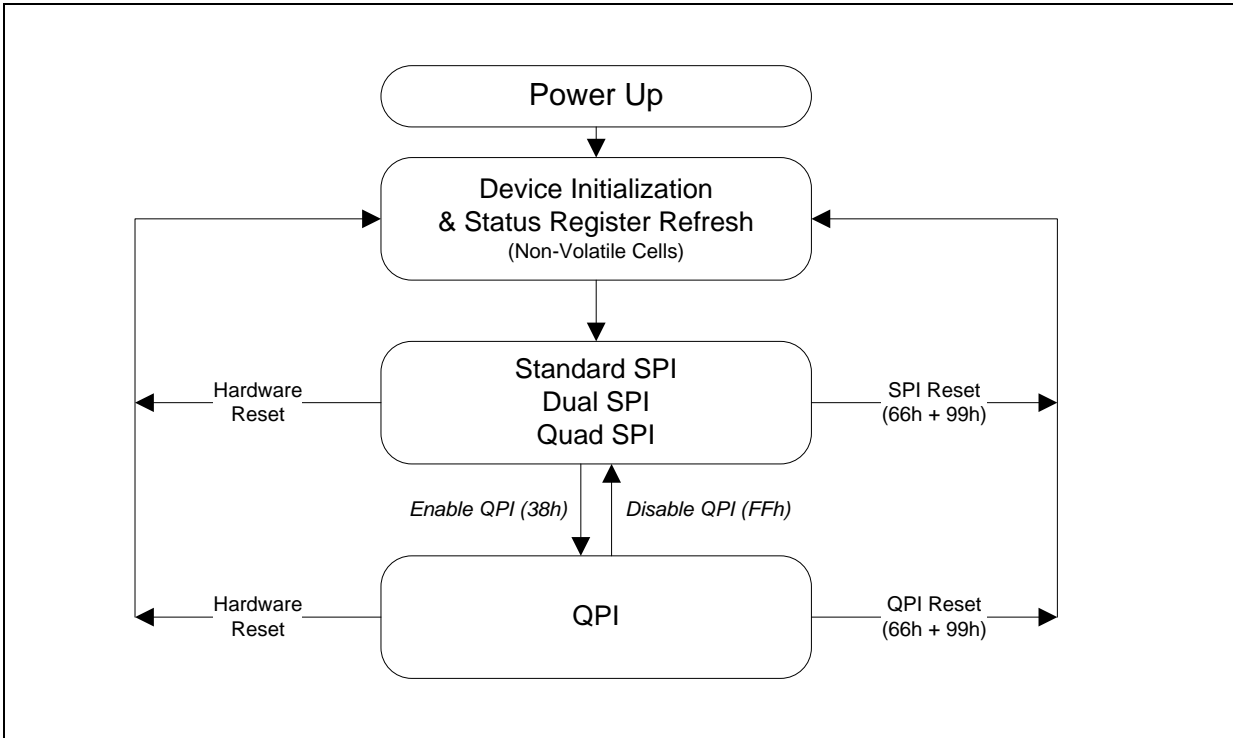

Figure 3. W25Q40/20/10RL Serial Flash Memory Operation Diagram
The W25Q40/20/10RL supports Quad Peripheral Interface (QPI) operations only when the device is switched from Standard/Dual/Quad SPI mode to QPI mode using the “Enter QPI (38h)” command. The typical SPI protocol requires that the byte-long command code being shifted into the device only via DI pin in eight serial clocks. The QPI mode utilizes all four IO pins to input the command code, thus only two serial clocks are required. This can significantly reduce the SPI command overhead and improve system performance in an XIP environment. Standard/Dual/Quad SPI mode and QPI mode are exclusive. Only one mode can be active at any given time. “Enter QPI (38h)” and “Exit QPI (FFh)” commands are used to switch between these two modes. Upon power-up or after a software reset using “Reset (99h)” command, the default state of the device is Standard/Dual/Quad SPI mode. To enable QPI mode, the non-volatile Quad Enable bit (QE) in Status Register-2 is required to be set. When using QPI commands, the DI and DO pins become bidirectional IO0 and IO1, and the /HOLD pin becomes IO3 respectively. See Figure 3 for the device operation modes.